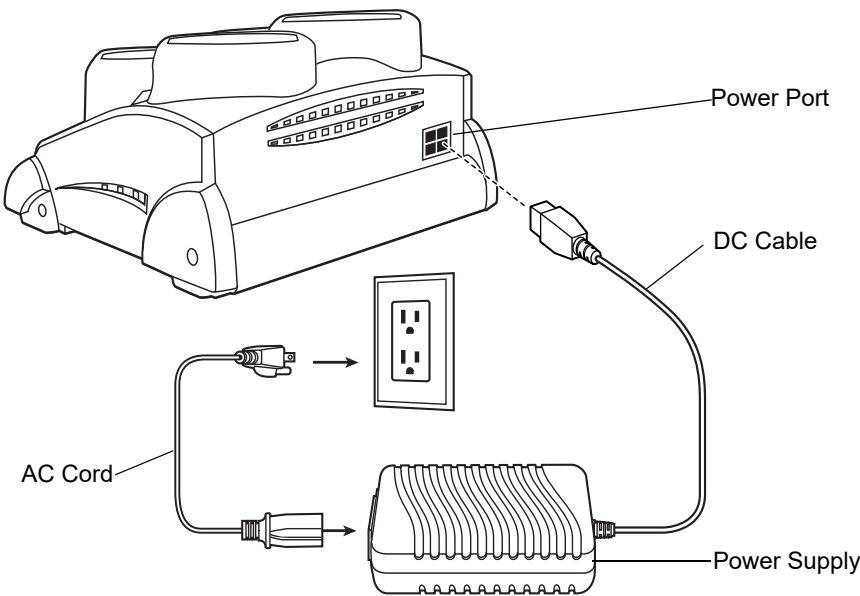

Figure 2-17 Four Slot Spare Battery Charger Power Connection
- 1. Connect the charger to a power source as shown in Figure 2-17.